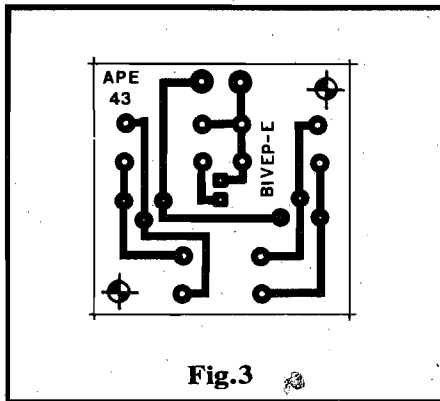
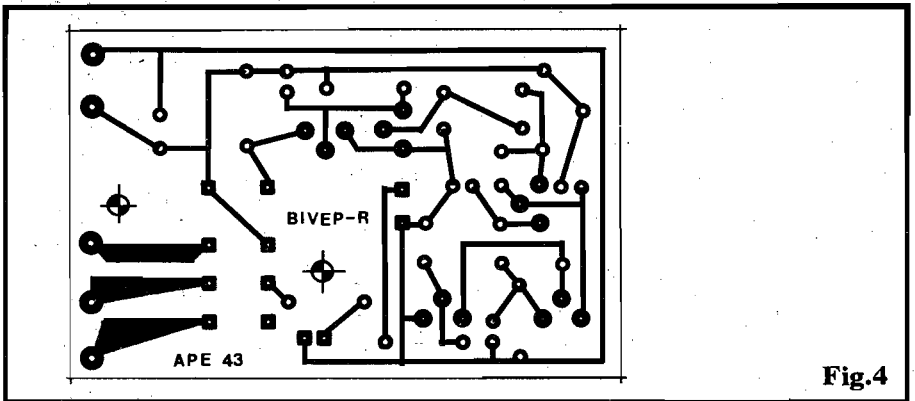

Fig.3
Fig.4
- FIG. 3 / FIG. 4 - LAY OUT DOS CIRCUITOS IMPRESSOS ESPECÍFICOS - Nas figs. 3 e 4 -